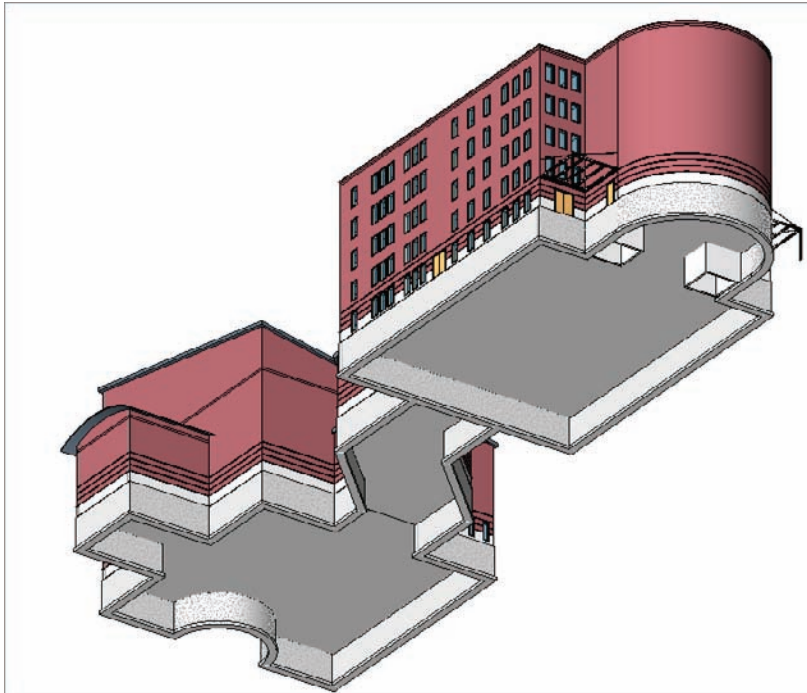

FIGURE 8.58 Doing a 3D investigation to see whether the footings are all in place
8. When you are finished picking the walls, go to a 3D view to make sure you have all of the foundations covered, as shown in Figure 8.58.